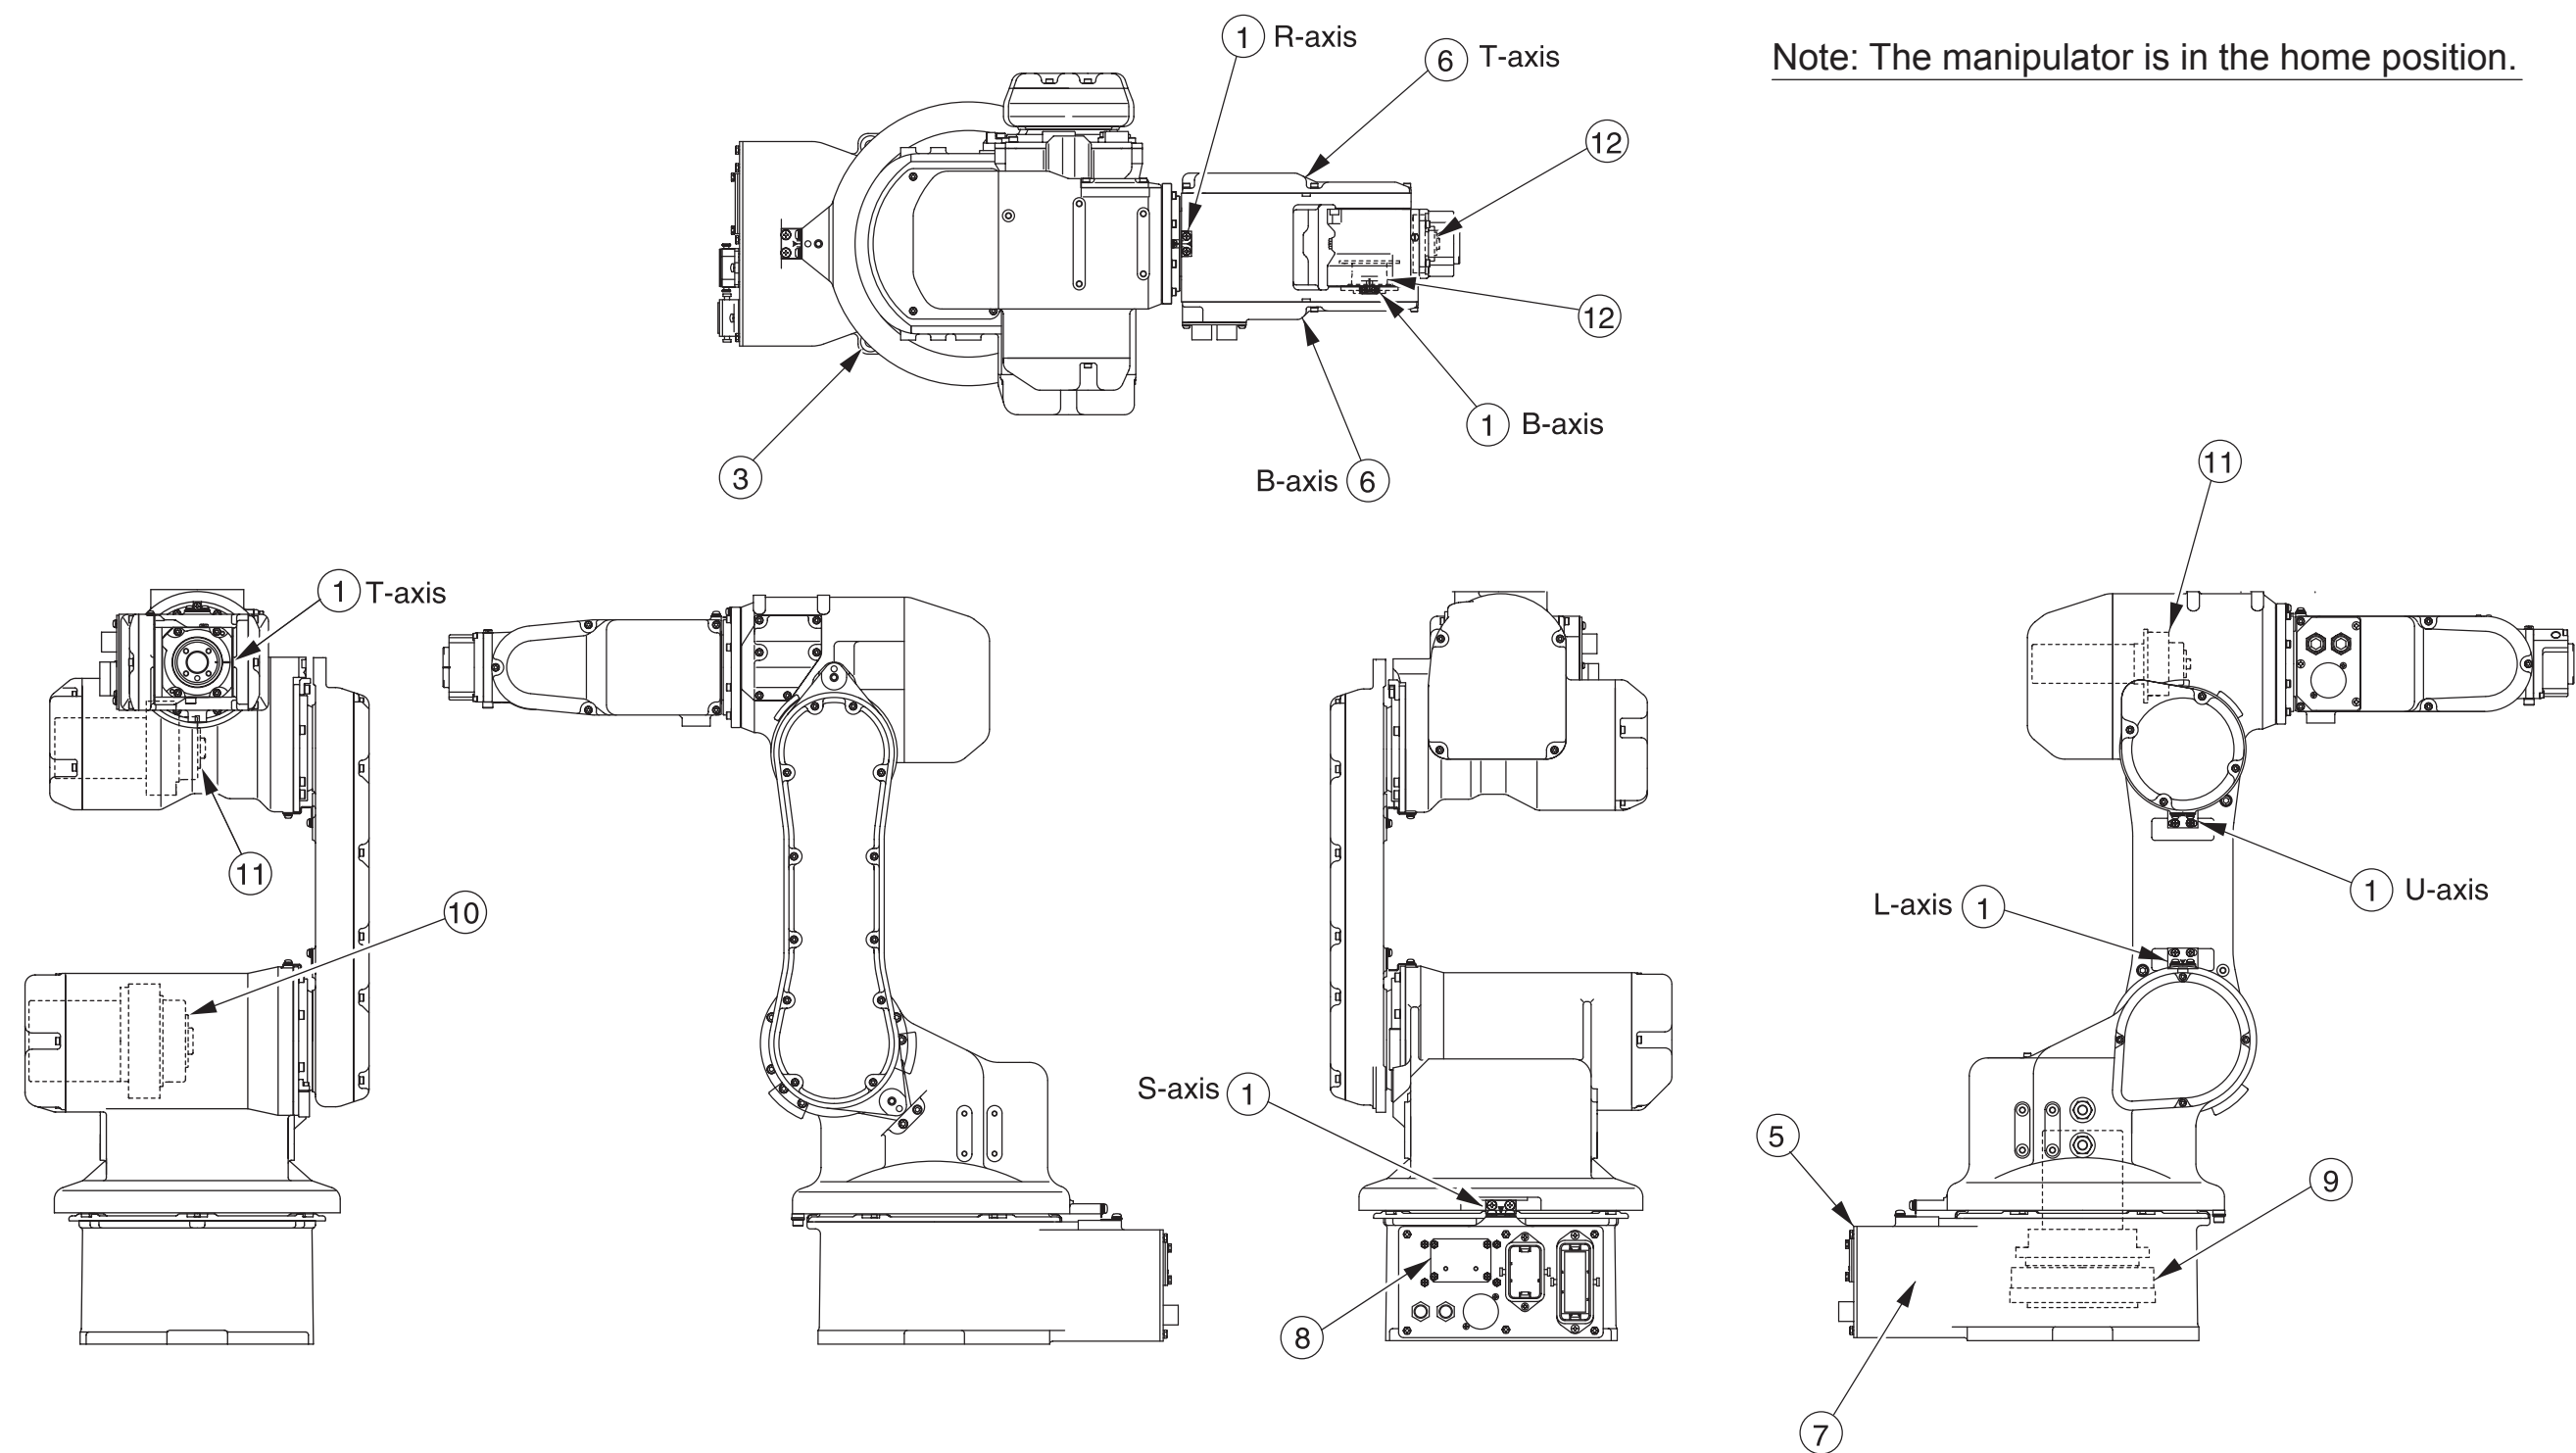

Fig. 20 Inspection Parts and Inspection Numbers
⑪ R-axis speed reducer			○				Grease Gun	Check for malfunction. (Replace if necessary.) Supply grease ^{*3} (6000H cycle). See Par. " 9.2.5 Grease Replenishment for R-Axis Speed Reducer "		○	○
⑫ BT-axes speed reducers T-axis gear			○				Grease Gun	Check for malfunction. (Replace if necessary.) Supply grease ^{*3} (6000H cycle). See Par. " 9.2.6 Grease Replenishment for B- and T-Axes Speed Reducers "		○	○
⑬ Overhaul						○					○
***4** Inspection No. correspond to the numbers in " Fig. 20 Inspection Parts and Inspection Numbers ".